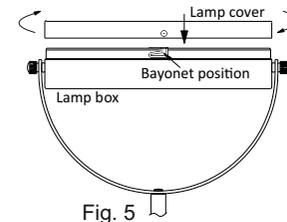

Fig. 5
4. Place the lamp cover over the box observing the bayonet positions. Press the lamp cover into the lamp box and rotate 10-12mm clockwise to lock it (Fig. 5).